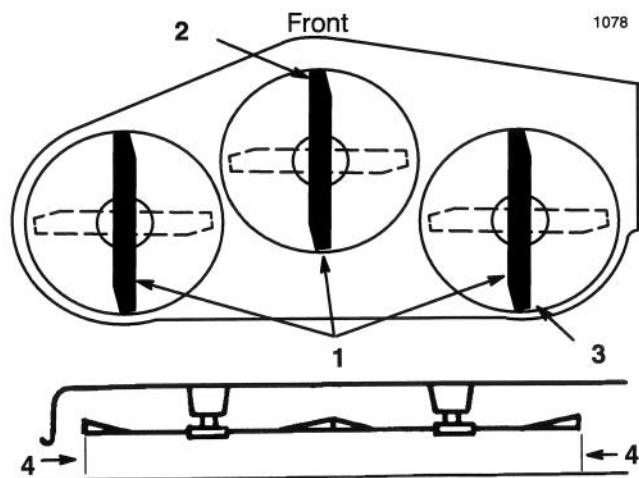

Figure 10
4. Carefully rotate blades so they are facing front and rear (Fig. 10).
5. Measure between the tip of the front blade (Fig. 10). and the tip of the rear blade to the flat surface. If the front blade tip is not 0–3/8" (0–9.5 mm) lower than the rear blade tip adjust front adjustment link.